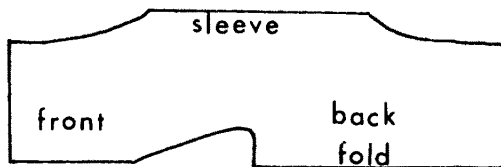

Fig. 1
1. Choose a simple pattern that needs few seams and has straight lines and no shaping details such as darts (Fig. 1).